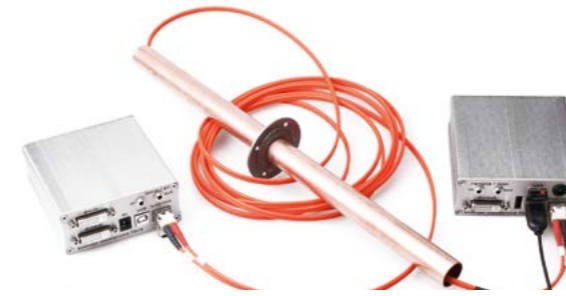

Figure 65: Example of a fiber optic converter combined with a waveguide solution
- 65 Shielding for data lines** is done by converting the signal to light and bring the signal into the shielded room via a fiber optic cable through a waveguide. The fiber optic cable is non-conductive and will not bring in unwanted signals. (Fig. 65)